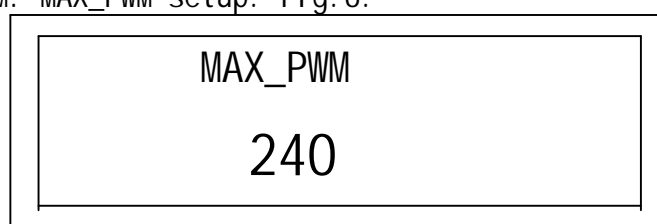

Fig.6: MAX PWM setup
1)、MAX_PWM: MAX_PWM setup. Fig.6.